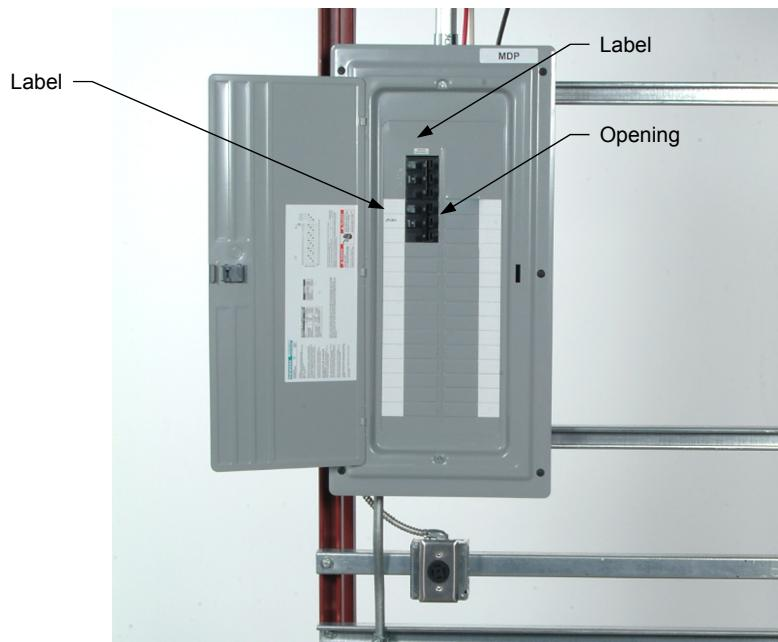

Figure 27. Make an opening on the MDP and apply the required labels.
- 24.** Refer to Figure 27 and make an opening at the proper location in the MDP front panel for the three-pole, branch circuit breaker installed in the MDP.
- 25.** Refer to Figure 27 and apply a label marked "service disconnect" on the MDP front panel, just beside the main circuit breaker.
- An opening is made at the proper location in the MDP front panel for the three-pole, branch circuit breaker installed in the MDP (see Figure 27).
- A label marked "service disconnect" should be applied on the MDP front panel, just beside the main circuit breaker (see Figure 27).
- A label marked as indicated in the electrical power distribution interconnection diagram, Part I, should be applied on the MDP front panel to identify the branch circuit breaker installed in this job sheet. This label should be located just beside the branch circuit breaker (see Figure 27).
- A label marked "MDP" should be applied at the top of the MDP front panel (see Figure 27).